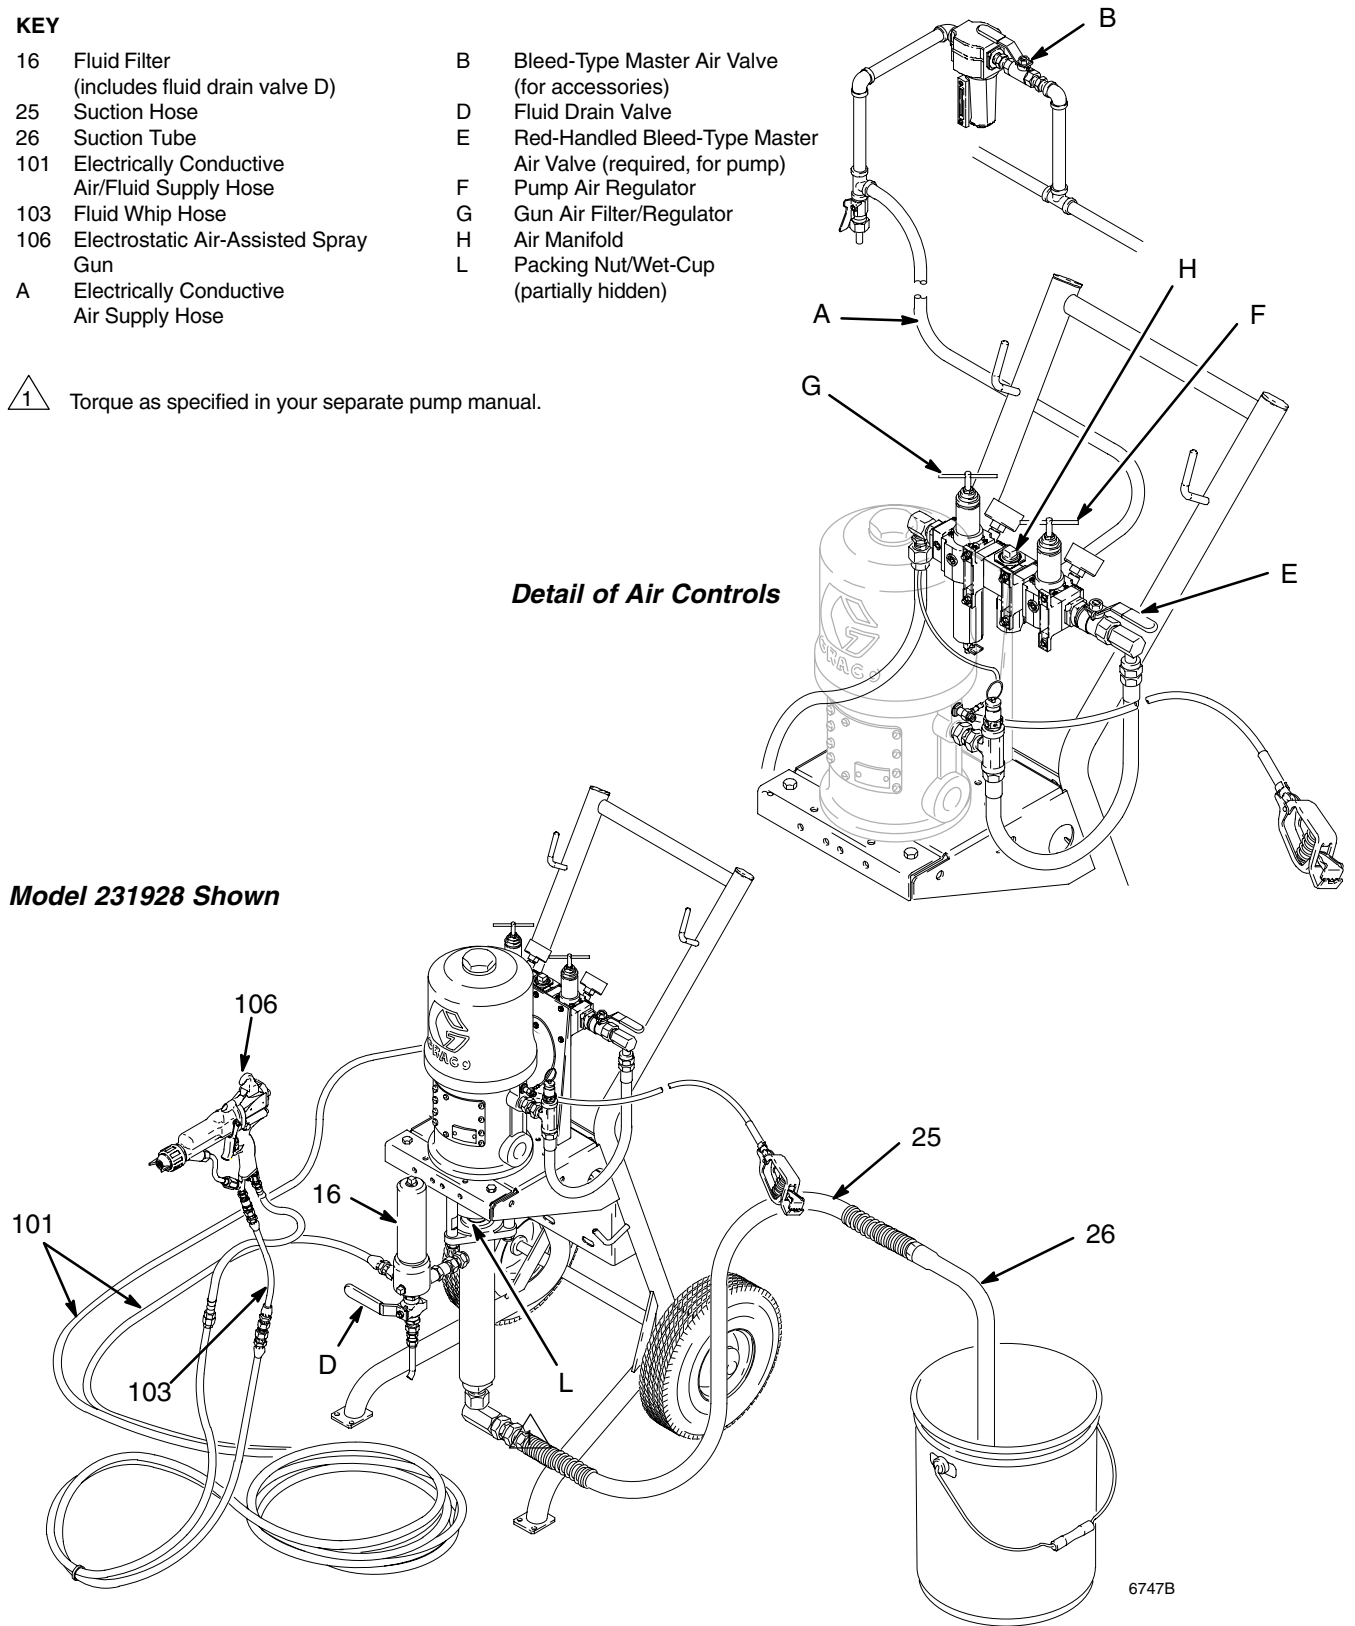

Fig. 5
The gun air filter/regulator (G, see Fig. 5) controls the air pressure to the spray gun. Air is supplied to the gun through a special electrically conductive air hose.
2. Remove the tip guard and spray tip from the gun (106). See the gun manual.
3. See Fig. 5. Close the gun air filter/regulator (G), pump air regulator (F), and bleed-type air valves (B, E).
4. Close the fluid drain valve (D).
5. Connect the air line (A) to the swivel of the air manifold (H).
7. Place the pump suction tube (26) into the fluid supply container.
8. Open the bleed-type air valves (B, E) and the gun air filter/regulator (G).
9. Point the gun (106) into a grounded metal pail and hold the trigger open.
10. Slowly open the pump air regulator (F) until the pump starts.